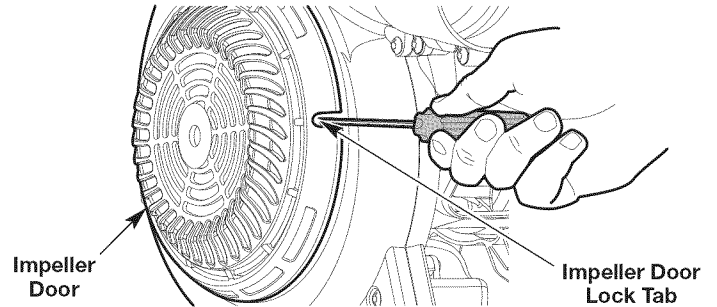

Fig. 5
1. Insert a flat-head screwdriver into the hole in the impeller door and press the impeller door lock tab inward (Fig. 5). Open the impeller door.